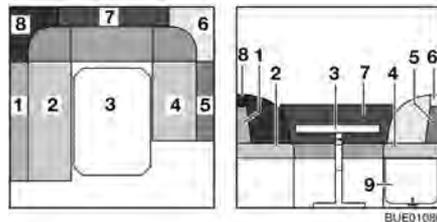

Fig. 89 Prior to conversion
- Convert the table (Fig. 89,3) to a bed foundation (see section 6.11).
- Unlatch and fold up the bedding box extension (Fig. 89,9).